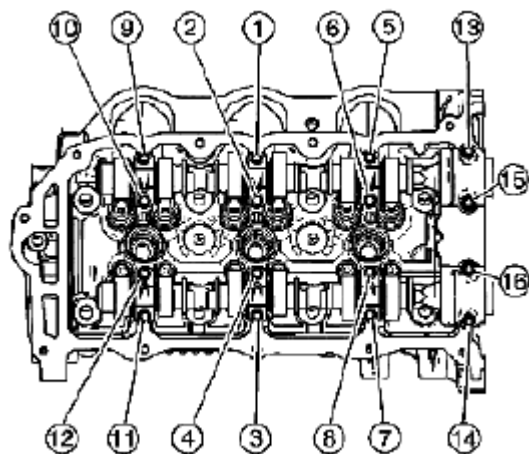

Fig. 756: Tightening Camshaft Bearing Cap Bolts
12. Tighten the camshaft bearing cap bolts in the sequence shown in **Fig. 756**.